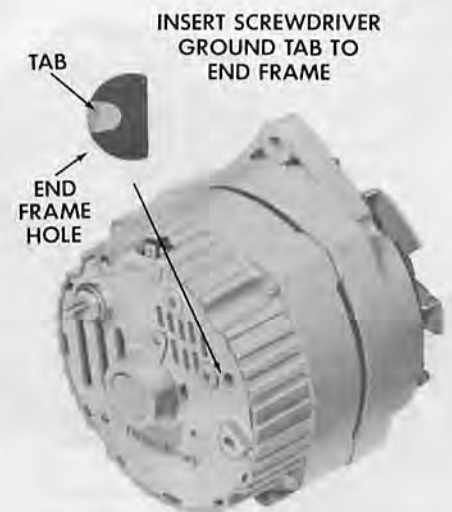

Figure 7—Grounding generator field winding. (Wiring connections not shown.)
- g. If ampere output is not within 10 amperes of rated output, determine if test hole (Fig. 7) is accessible. If accessible go to Step 1. If not accessible go to Step 1.
- h. Ground the field winding by inserting a screwdriver into the test hole (Fig. 7). **CAUTION:** Tab is within $\frac{3}{4}$ inch of casting surface. Do not force screwdriver deeper than one inch into end frame.